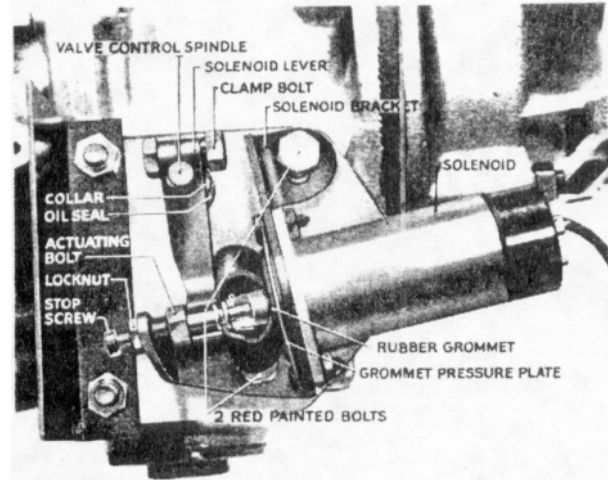

Fig. 28 Solenoid Operating Details in assembled form
6. Fit the solenoid lever to the actuating bolt as shown in Fig. 28.
12. Fit the actuating bolt stop screw and locknut (Fig. 28). By holding the operating lever against the head of the actuating bolt and moving the lever, a certain amount of free travel should be felt. Adjust the stop screw until this free travel is reduced to 1/16" when not in overdrive and then tighten the locknut. It is important that there should be lost movement at this point.